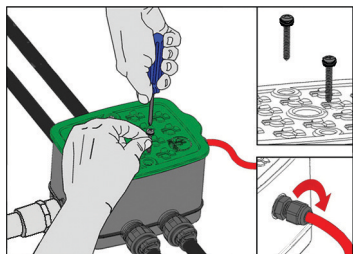

Fig 5
7. Arrange connectors and wires to allow proper closure of the lid. Push the lid (b) in place, making sure the “O” ring seal and inside of the housing are clean to ensure sealing. Install and tighten the lid screws (a), checking that the rubber washers are in place on the screws to maintain a seal (Fig 5).